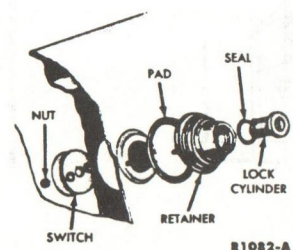

Fig. 8 - Tailgate Switch and Lock
3. Remove the nuts retaining the lock and switch, and then remove the lock and lock cylinder from the tailgate (Fig. 8).